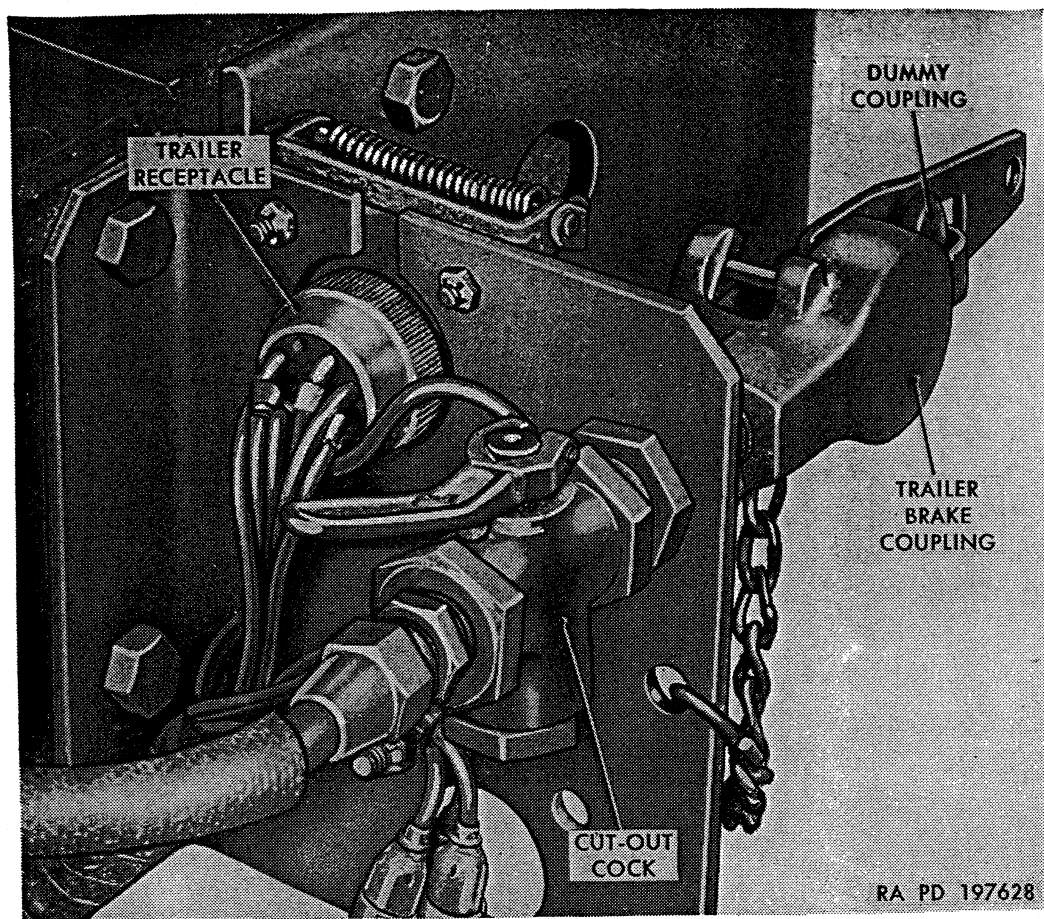

Figure 257. Trailer brake coupling and cutout cock installed at rear of frame (left side shown).
*b. Trailer Brake Coupling Replacement (fig. 257 or 258)*
- (1) *Removal.* Cutout cock must be closed. Remove dummy coupling from trailer coupling. Unscrew coupling from cutout cock connector.
- (2) *Installation.* Coat threads of cutout cock connector sparingly with plastic-type gasket cement. Thread trailer coupling onto connector and tighten. Assemble dummy coupling to trailer coupling.
*d. Trailer Brake Cutout Cock Replacement* (fig. 257 or 258).
- (1) *Removal.* Exhaust air pressure from system before removing cutout cock at trailer brake EMERGENCY line coupling. Disconnect air line from cutout cock. Unscrew cutout cock from connector.
- (2) *Installation.* Coat threads of cutout cock connector with plastic-type gasket cement. Thread cutout cock onto connec-